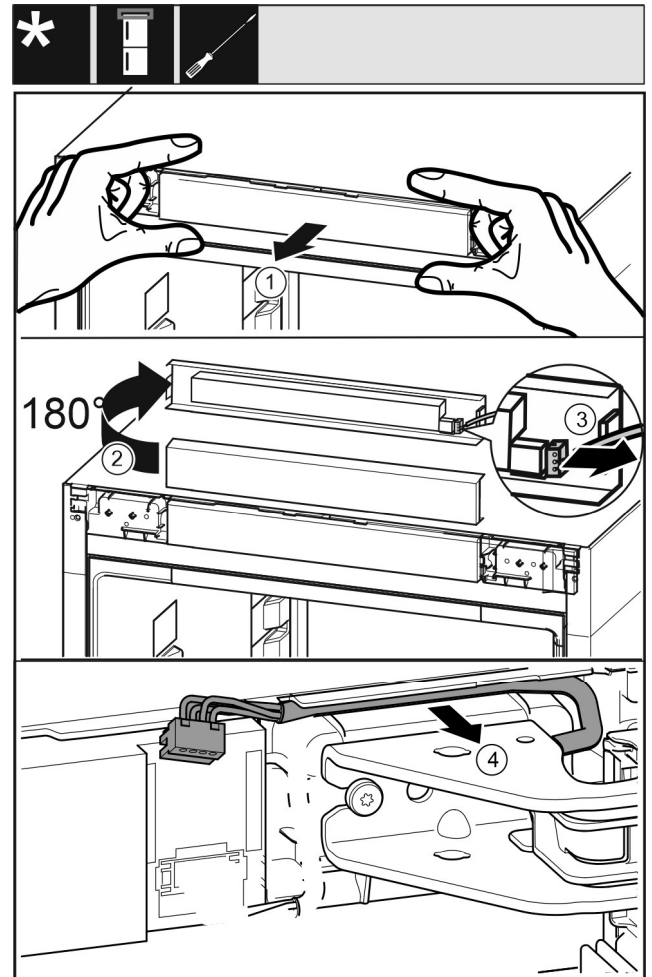

Fig. 20
- ▶ Carefully loosen the control plate Fig. 20 (1) toward the front.
- ▶ Turn the control plate Fig. 20 (2) upward by 180°.
- ▶ Press the latching tab Fig. 20 (3) backwards and carefully pull out the plug.
- ▶ Carefully loosen the cable Fig. 20 (4) above the swap bearing block from the guide.